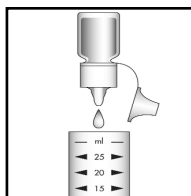

Figure 1
1. Add 5 drops of A-7900 Activator Solution to the empty sample cup (fig. 1).